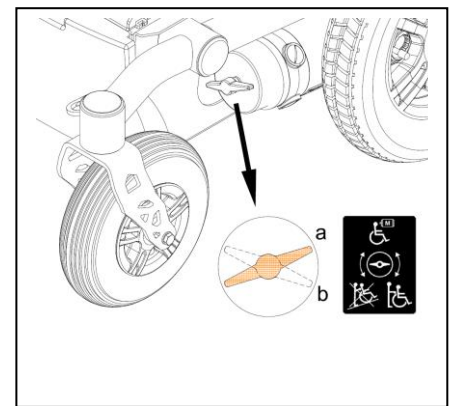

Figure 6.4
- 'Drive' mode. In this position, the chair can not be pushed (a in figure 6.4).